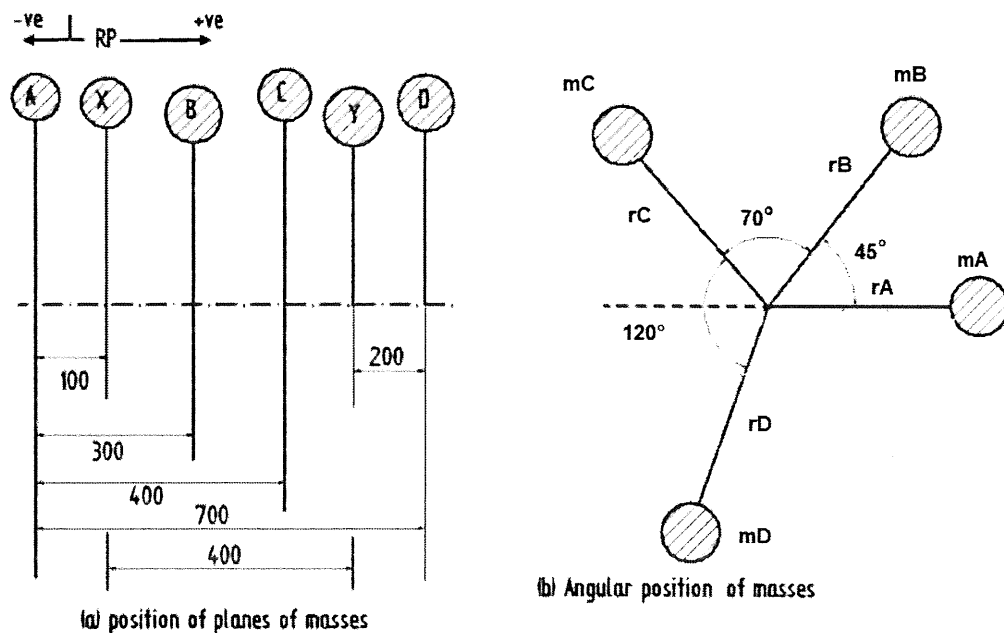

Figure 1
- a) Figure 1 shows a shaft carries four masses A, B, C and D of magnitude 200 kg, 300 kg, 400 kg and 200 kg respectively and revolving at radius 80 mm, 70 mm, 60 mm and 80 mm in planes measured from A at 300 mm, 400 mm and 700 mm. The angles between the cranks measured anticlockwise are A to B  $45^\circ$ , B to C  $70^\circ$  and C to D  $120^\circ$ . The balancing masses are to be placed in planes X and Y. The distance between the planes A and X is 100 mm, between X and Y is 400 mm and between Y and D is 200 mm. If the balancing masses revolve at a radius of 100 mm, **solve** their magnitudes and angular positions. (7 marks)